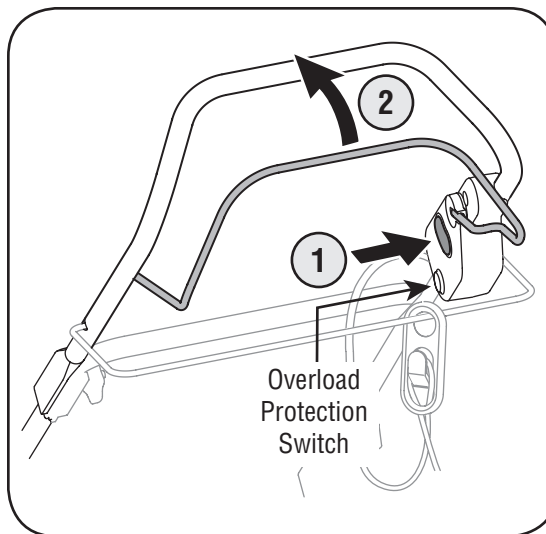

Figure 4-3: Starting the motor and blade.
The mower is equipped with a overload protection switch, located on the motor/blade control. Refer to Figure 4-3. This overload protection switch may pop out when too much strain is placed on the motor. Refer to Maintenance Section to reset this switch.
3. Depress the (red) starter button and hold it in. See Figure 4-3.
4. While holding the starter button in, pivot the motor/blade control handle upward against the upper handle to start the motor and engage the blade. See Figure 4-3.
2. Press the overload protection switch inward to reset. See Figure 4-3 in Operation section.